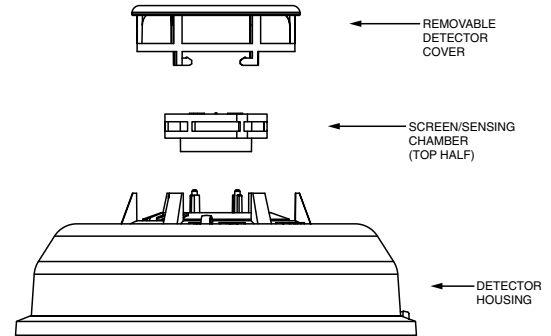

Figure 5. Removing Screen/Sensing Chamber
4. Remove the top half of the screen/sensing chamber by lifting straight up (Figure 5).